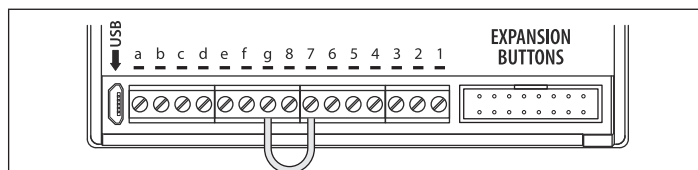

Fig. 56
2. Put a short across terminals **g** & **7** on the back of the GSM module, as shown in **Fig.56**.